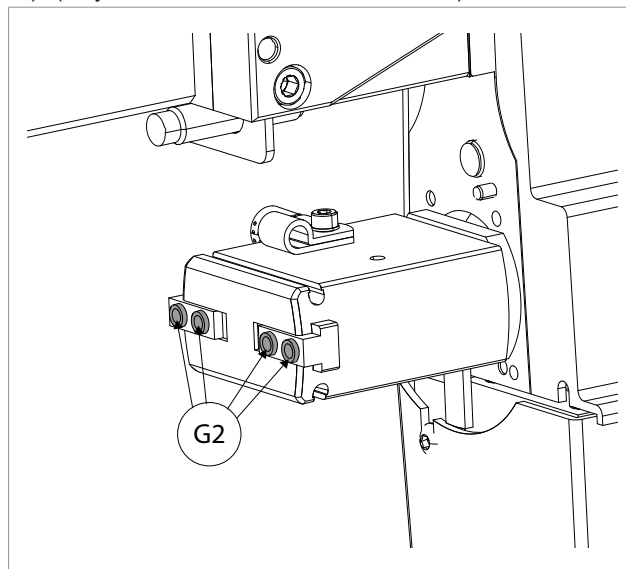

Fig. 100
- 3) Remove the grippers (G). Attention: The clamp centring rings (G2) must remain in place (Fig. 100)